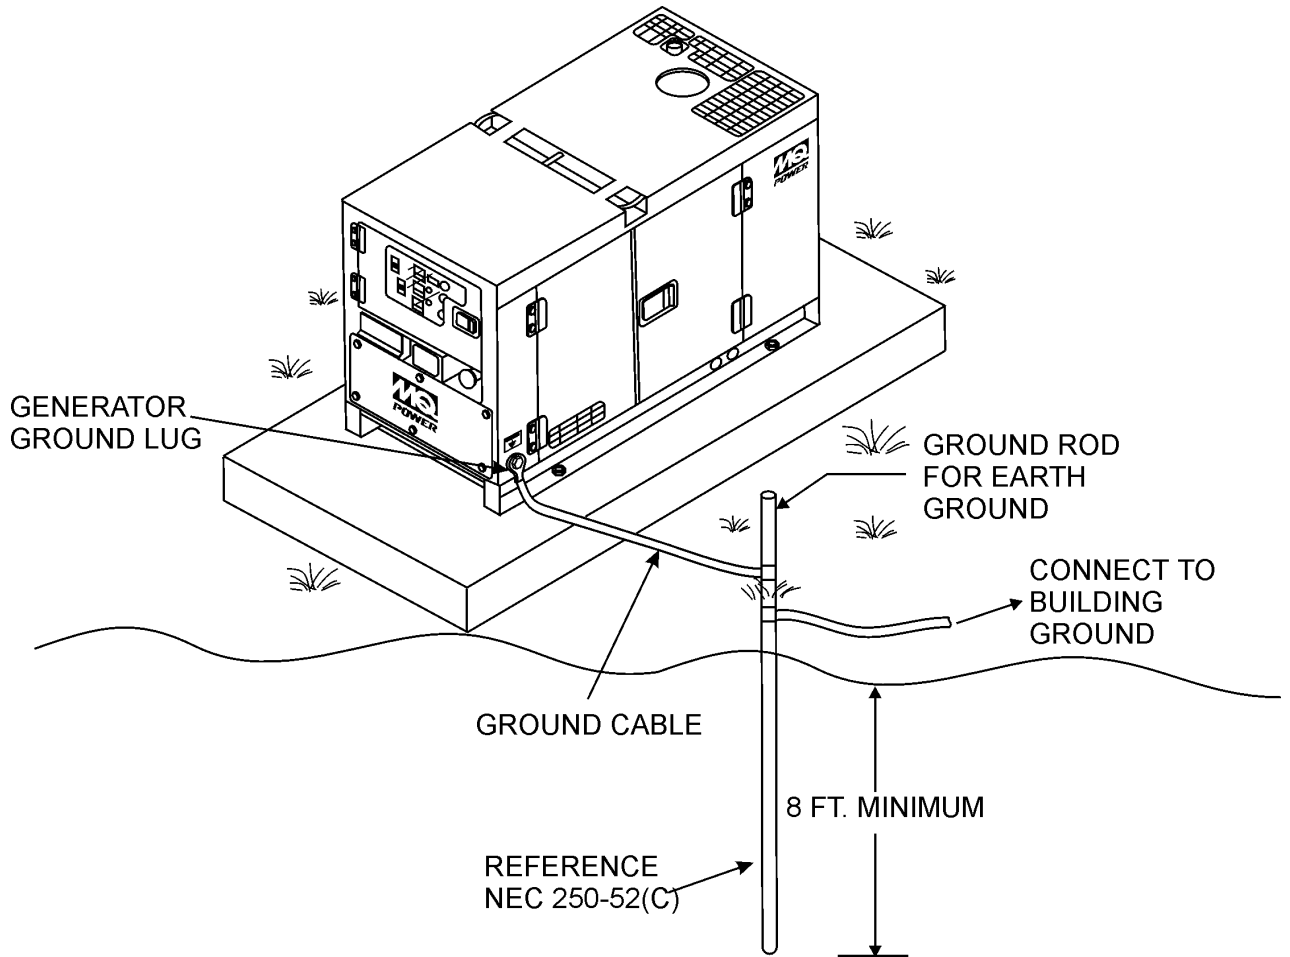

Figure 27. Typical Generator Grounding Application
2. When grounding the generator (Figure 27) connect the ground cable between the lock washer and the nut on the generator and tighten the nut fully. Connect the other end of the ground cable to earth ground.